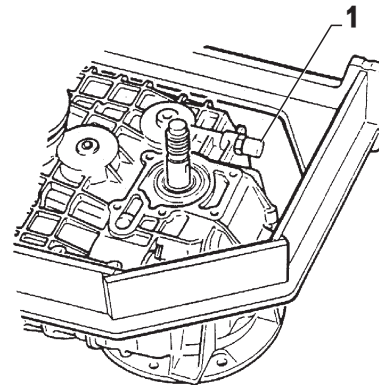

FIG. 3-1
Unscrew breather valve (item 1, Fig. 3-1). Wash valve in a detergent, let dry and dip in oil, then let oil drip off.